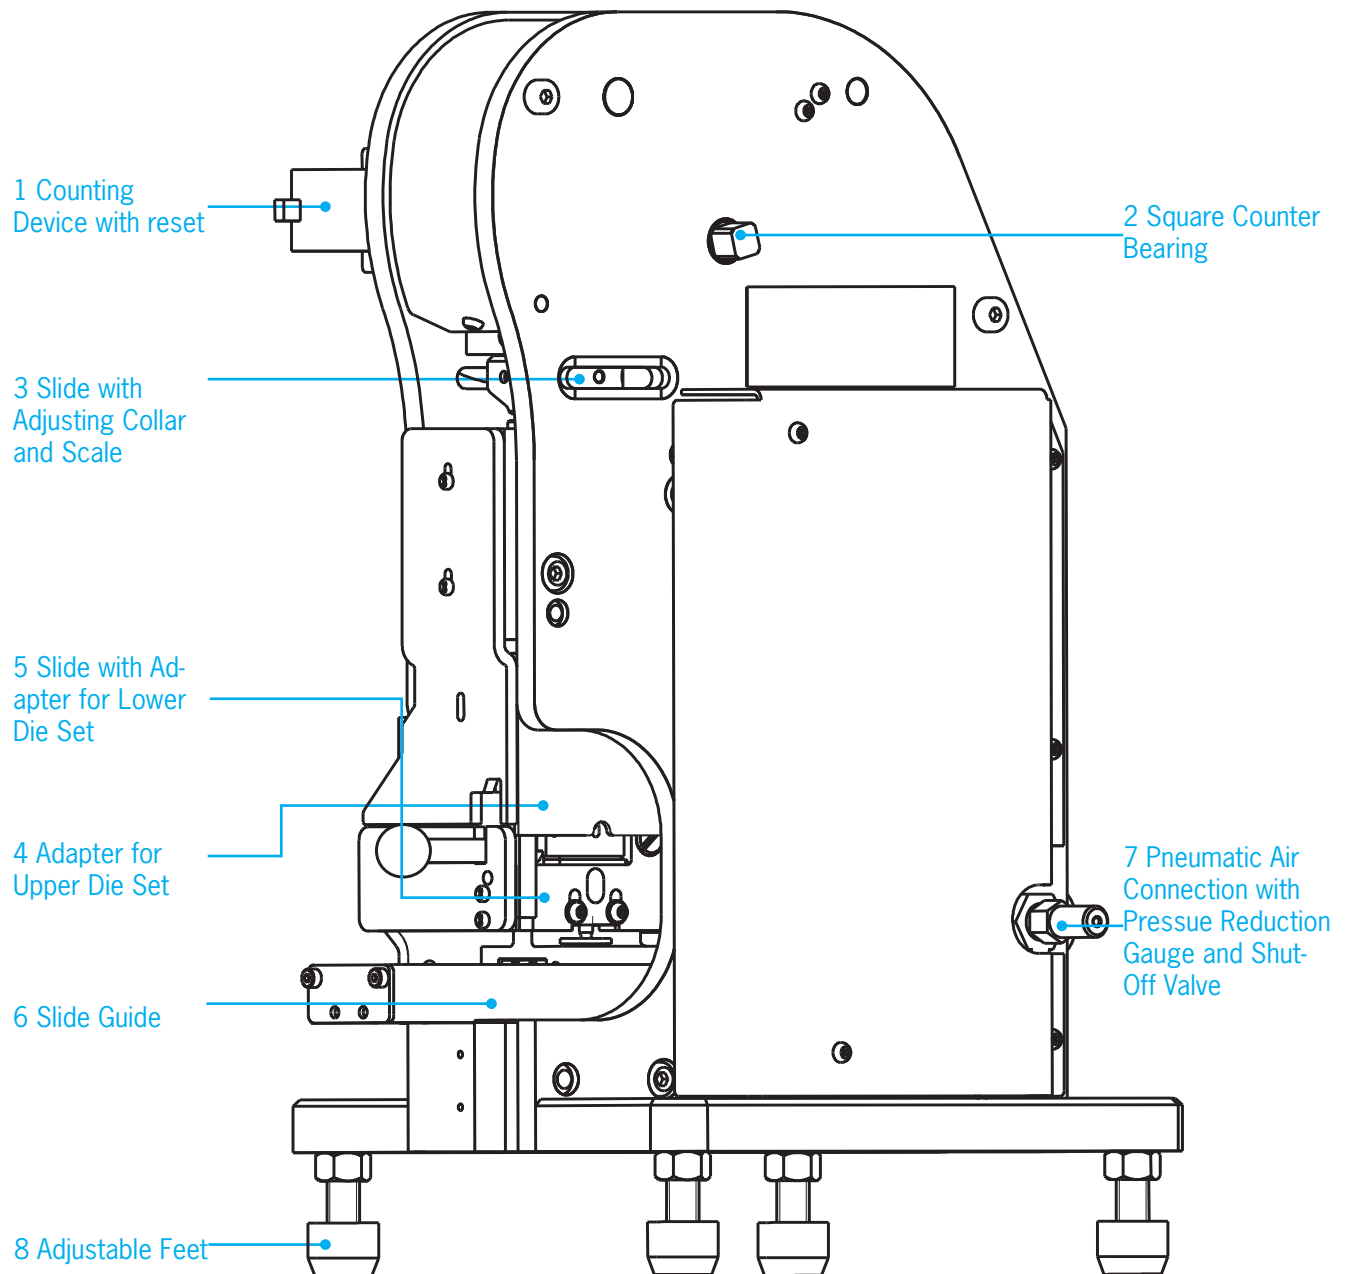
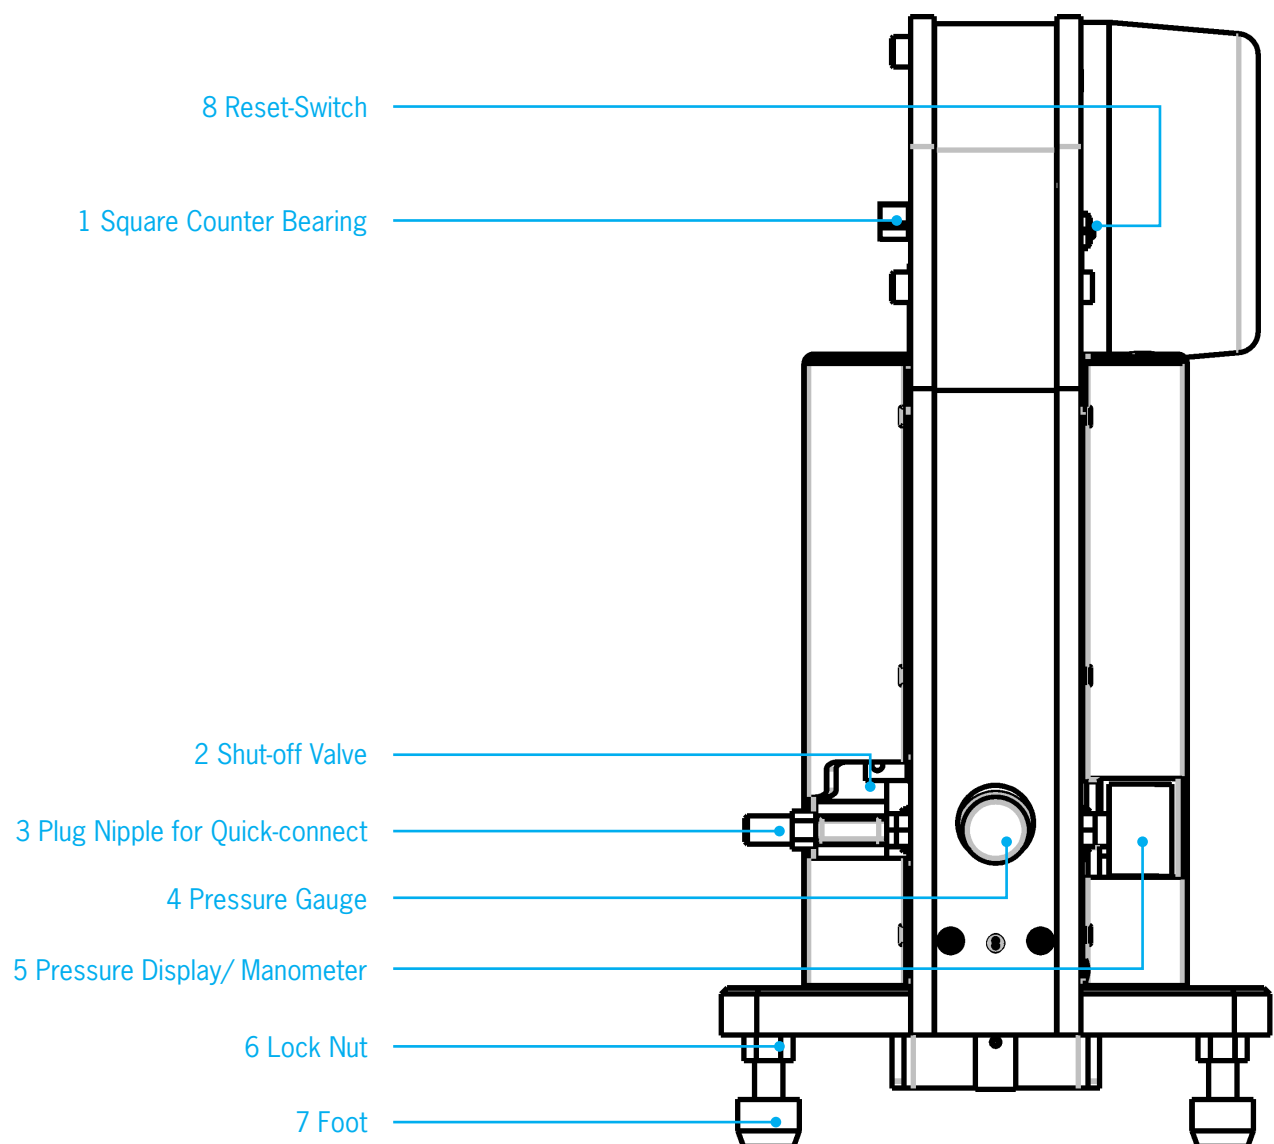
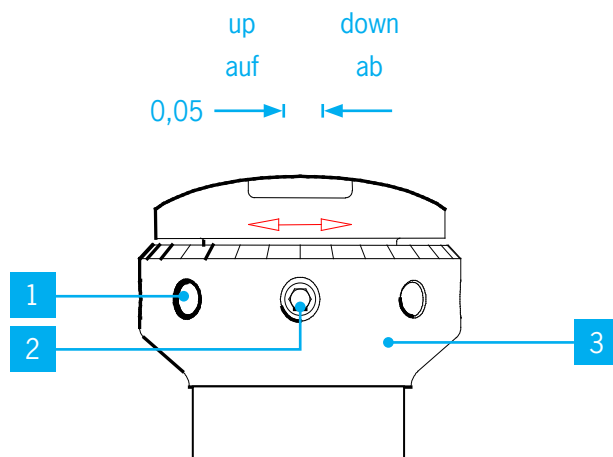

Fig. 1
Fig. 3
Fig. 5
1. Place the machine at the final work location. The adjustable feet Fig. 3/7 are used to place the machine firmly onto the work surface and the setting is secured in place by lock nuts Fig. 3/6. The secure setup of the machine is very important!
2. Connect the supply hose for the compressed air. The built-in pressure gauge Fig. 3/4 is a factory setting and will limit the amount of air pressure to max. 6 bar. Please ensure that the air supply hose is properly connected. In order to operate the machine safely, the air pressure must be between 5 - 6 bar.
- Open the shut-off valve Fig.3/2
- Pull the slide Fig. 1/5 out of the front of the machine
- Close the clamp lever Fig. 2a/1. Move slide Fig. 1/5 into the crimping machine up to the limit stop, the working stroke is hereby triggered
- after the crimp process is completed, pull the slide Fig. 1/5 out of the machine and open the clamp lever Fig. 2a/1
- Interrupt air pressure with shut-off valve Fig. 3/2
- Release the remaining air by using the RESET switch Fig. 3/8
- Pull the slide Fig. 1/5 out of the crimping machine
- Use a wrench SW 12 and place it onto the square counter bearing Fig. 1/2 turn till the crimping dies are closed (without air pressure)
- Keep RESET button Fig. 3/8 compressed everytime the wrench is used on the counter bearing
- Rotate the counter bearing Fig. 1/2 until the upper die reaches the top
- Move the slide Fig. 1/5 into the machine until the stop
- Turn the wrench on the counter bearing Fig. 1/2 with an SW 12 wrench to move the upper die set down to the lower die set until they set on top of one another tightly (keep the RESET button Fig. 3/8 compressed during this process)
- Turn the wrench on the counter bearing Fig. 1/2 until the die set opens up and the slide Fig. 1/5 can be pulled out of the machine; now remove the wrench
- Move the upper and lower die sets apart by rotating the square end Fig. 1/2 with an SW 12 wrench (the RESET button Fig. 3/8 should remain compressed throughout this process) until the scale and setting information are visible
- Loosen the tensioning screw Fig. 5/2 with an SW 3 mm Allen wrench
- Choose the desired dimensional alignment by using the adjusting ring Fig. 5/3, use the extra holes provided Fig. 5/5 to select the desired setting
- Upon completion of the alignment, secure the adjusting ring Fig. 5/3 by tightening the fastening screw (an additional fastening screw is located at the 180° position). Only one fastening screw needs to be tightened for secure clamping, especially the fastening screw that can be reached by the operator the easiest.); afterwards open the shut-off valve Fig. 3/2
- Pull the slide Fig. 1/5 out of the machine
- Pull the slide out of the machine Fig. 1/5